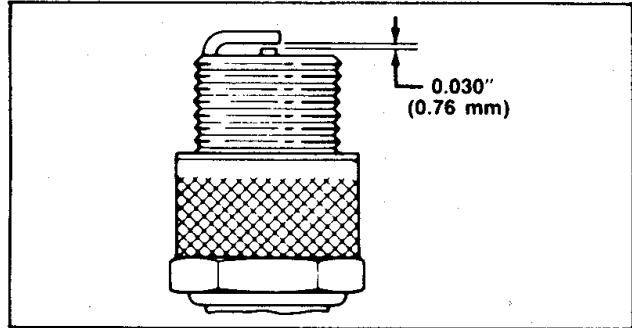

Figure 28
## REPLACING SPARK PLUG (Fig. 28)
- Set air gap between electrodes of new spark plug at 0.030 of an inch (0.76 mm) (Fig. 28). Next, install spark plug in cylinder head. Tighten plug to 15 ft-lb (20.4 N·m). If torque wrench is not used, tighten plug firmly.